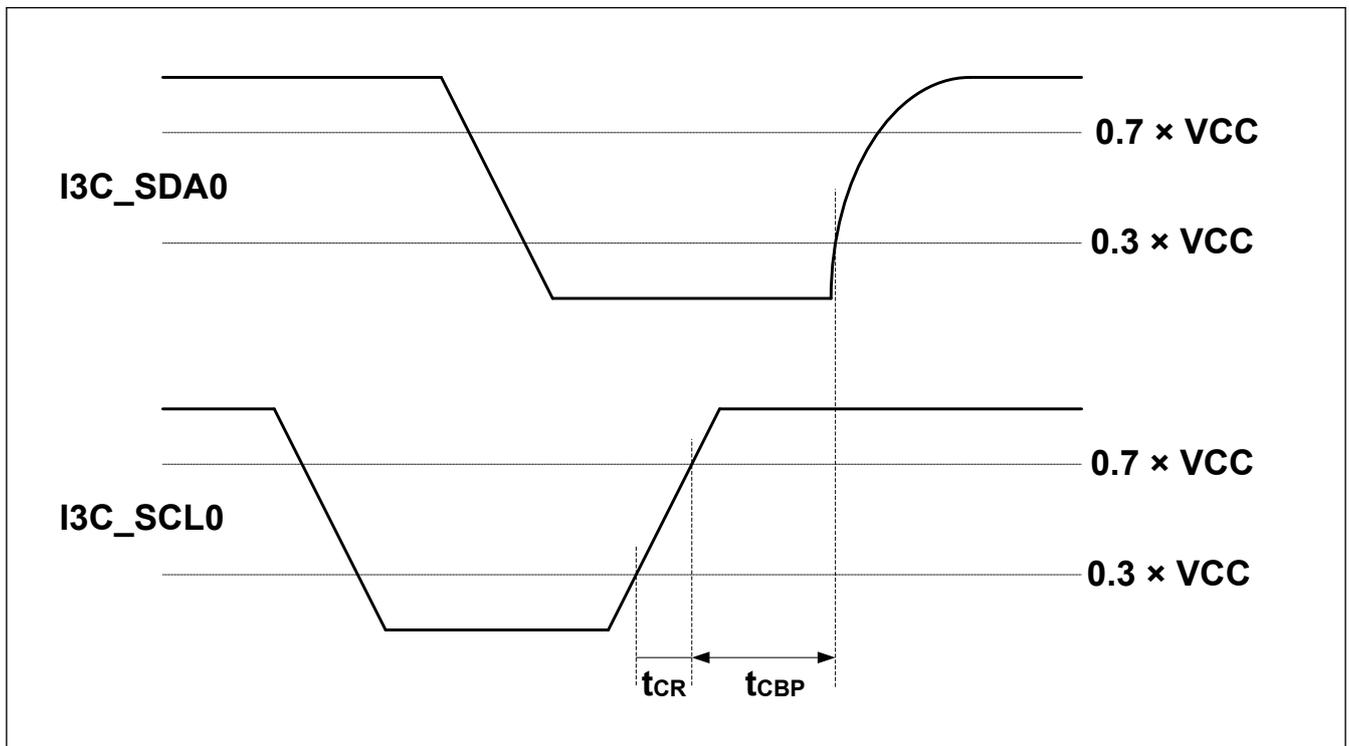

Figure 2.94 I3C STOP condition Timing
- Note 2. In a Mixed Bus, HDR-TSL shall respect the maximum $t_{DIG_H_MIXED}$ shown in Figure 2.94.